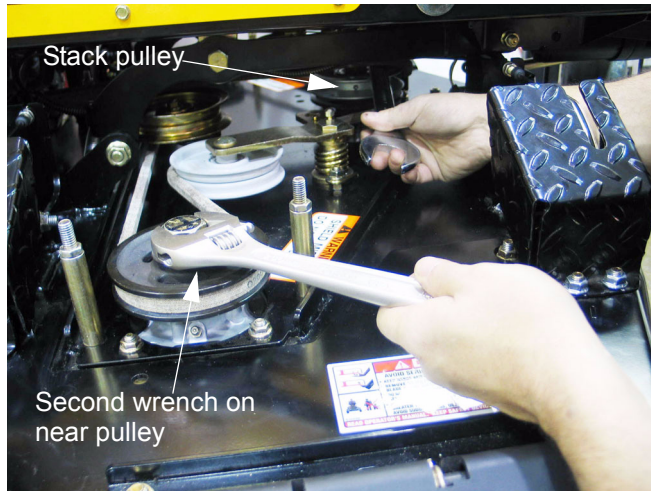

Figure 3.8
- 3.8. A second 1 1/8" wrench may be applied to the top of the nearest blade spindle if more rotation is needed. See Figure 3.8.